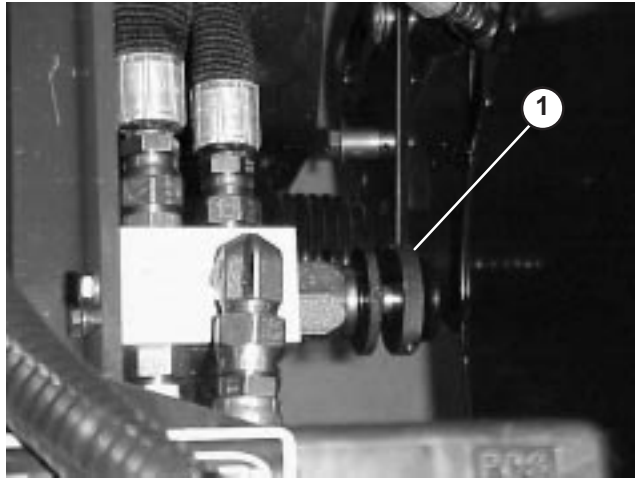

Figure 63
1. Raise hood and locate valve in center of machine behind engine (Fig. 63).